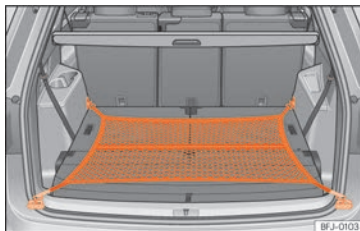

Fig. 124 In the luggage compartment: net bag hooked up at floor level.
- Secure the net hooks to the fastening rings »» Fig. 124 »» . The bag zip should be facing upwards.